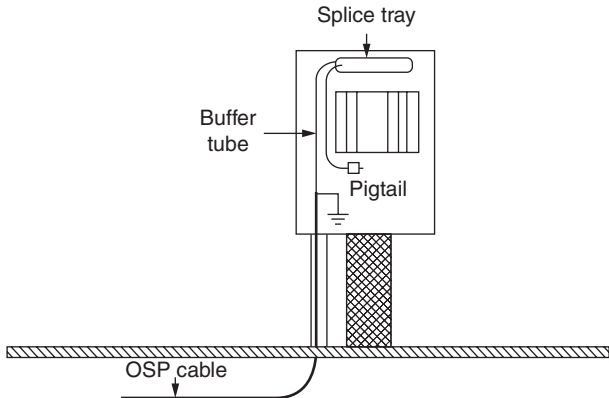

FIGURE 11-15. Direct entry with OSP cable into the DLC.
**DLC Cable Entries.** In a conventional digital loop carrier (DLC) optic cable entry method, there can be problems. Figure 11-15 shows how a DLC can be interfaced with an outside plant fiber-optic cable. The cable is drawn into the closure, and then is grounded and exposed inside the case. The buffer tubes are attached to a splice tray inside the closure, and pigtails are spliced to the fibers contained in the buffer tube.
Disadvantages of this configuration, shown in Figure 11-15, are: